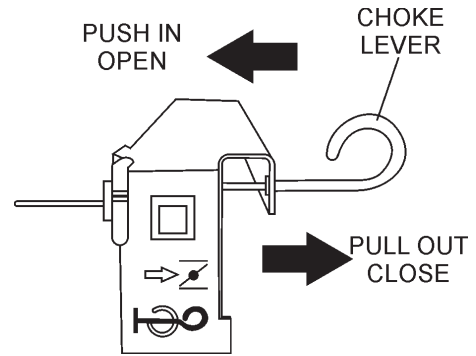

Figure 12. Choke Lever
2. Place the **choke lever** (Figure 12) in the "CLOSED" position if starting a **cold** engine.
3. Place the **choke lever** (Figure 12) in the "OPEN" position if starting a **warm engine** or the **temperature is warm**.
- If the engine has started, slowly return the choke lever (Figure 12) to the **"OPEN"** position. If the engine has not started repeat steps 1 through 6.